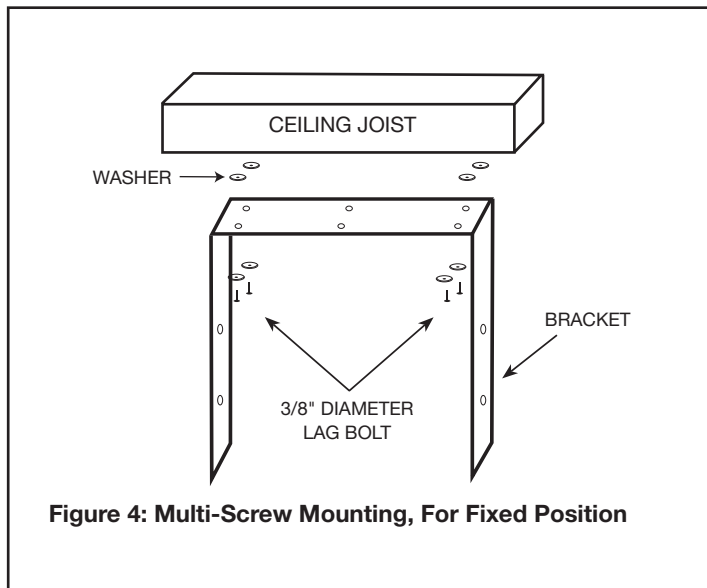

Figure 4: Multi-Screw Mounting, For Fixed Position
Refer to **Figure 4**.
3. Place the screws and washers as shown in the **Figure 4**.